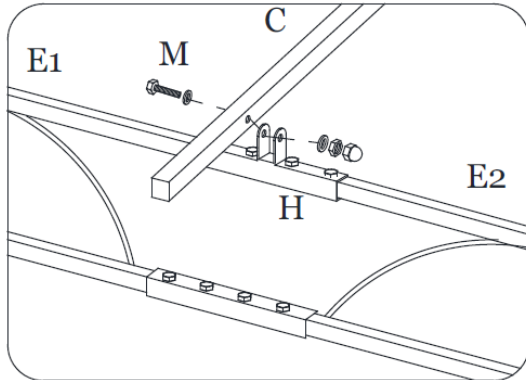

Figure 8
Step 2: Insert the “Push Button” end of the “Short” Roof Support (C) into the Center Roof Connector (A) and attach to the “U” Bracket (K) on top of the Assembled Cross-Beams (E1 and E2) using Bolt, Washers, and Nut (M). See Figure 8.